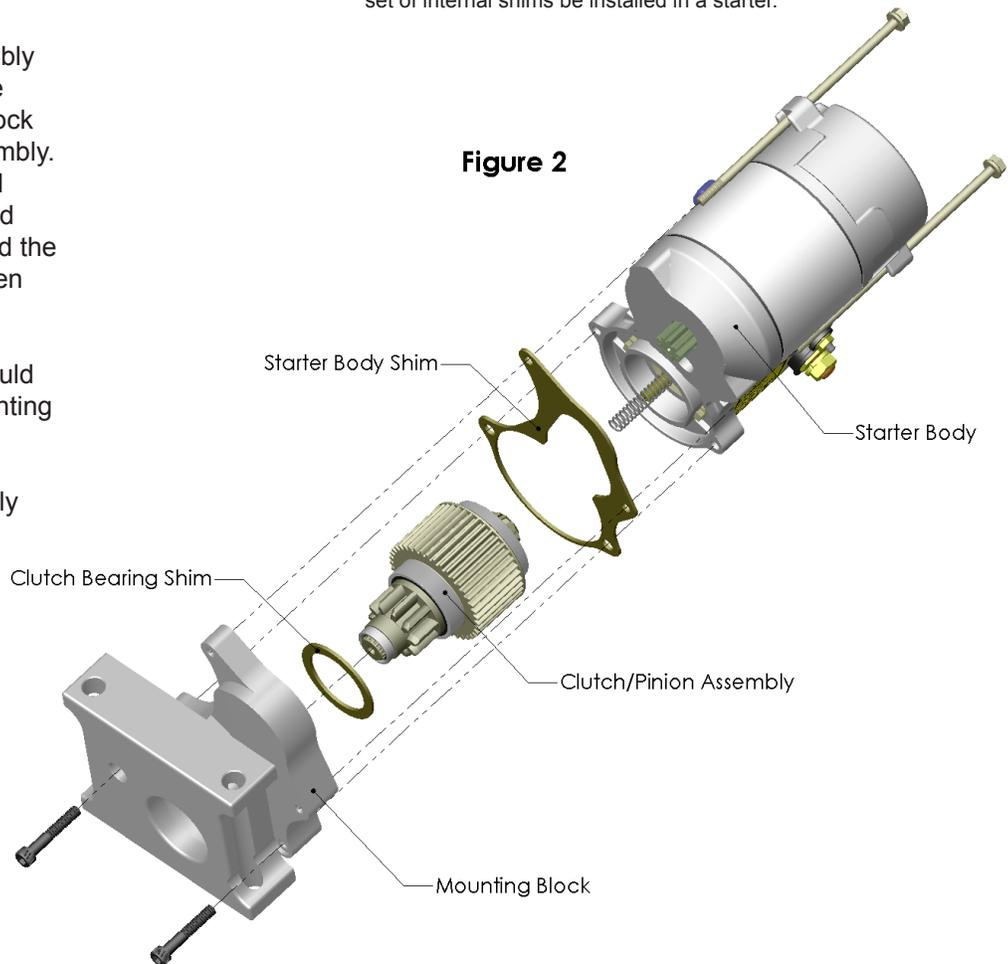

Figure 2
3. Remove the clutch/pinion assembly from the mounting block. Place the round clutch bearing shim in the block and reinstall the clutch/pinion assembly. This spacer shim should be located between the pinion side bearing and the billet block and be visible behind the pinion gear after the starter has been reassembled. (Figure 2)